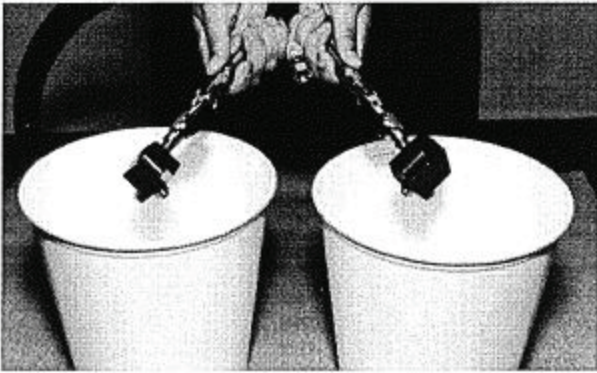

Fig. 3
2. Place separate clean containers under each individual side block. Open manual material valves (black arrow forward, see Fig. 4 and Fig. 5) on each side block simultaneously to allow trapped air to escape the hose and material to flow into the containers until all air is purged from the material system. (See Fig. 3)